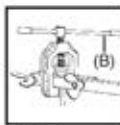

FIG. 1
Flaring now results from the same operation as a conventional flaring tool. Turn "T" Handle (B) Fig.1. (this controls the flaring cone on the yoke screw) clockwise and continue turning until adequate flaring is accomplished.